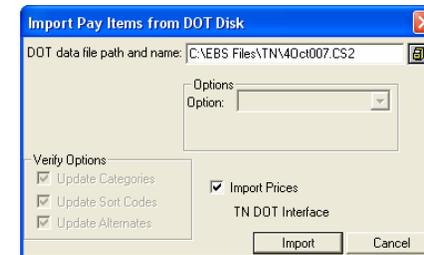

Figure 2.4
Overview: This option is used to load a list of pay items and quantities from a State DOT-supplied bid disk into a project file. This option makes it extremely easy to set a job up, especially one with a long list of pay items. The information loaded from the State disk varies depending on the DOT program but usually includes: Pay Item Number, Description, Bid Quantity, and Unit Description. Some states also include Category Number, Alternate Codes, and Sort Codes. After selecting this option, you will see the screen shown in Figure 2.4.
- (D) You will then see the screen shown in Figure 2.4. See below for each of the options on this screen.